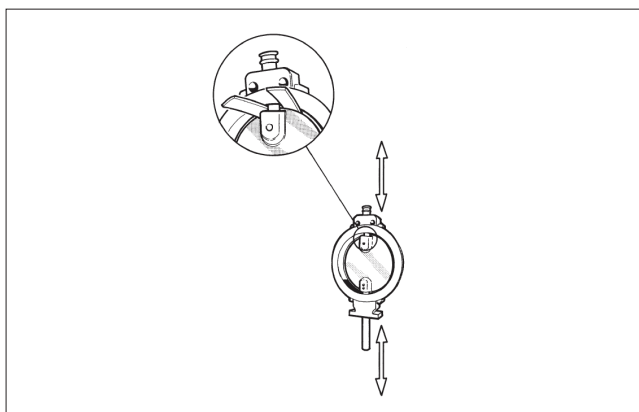

Fig. 17 Protecting the disc during disassembly and assembly
- Drill the holes carefully to the center of the pins (18). Choose a drill 0.2-0.5 mm smaller than the diameter of the pin.
- Dismantle the gland packing including anti-extrusion ring (23) according to Section 5.3.
- Detach the screws (44) and the blind flange (8) and remove the gasket (31).
- Place rubber strips or other protection between the disc edge and the body and remove the shafts (see Fig. 17).
- Mount the bearings (11, 12) into the body (1) from flow port side.
- Place the disc horizontally on a surface so that the flat side of the disc lays against the surface. Lift the body around the disc so that the shaft bores are aligned with the bores in the disc. Protect the disc (see Fig. 17).